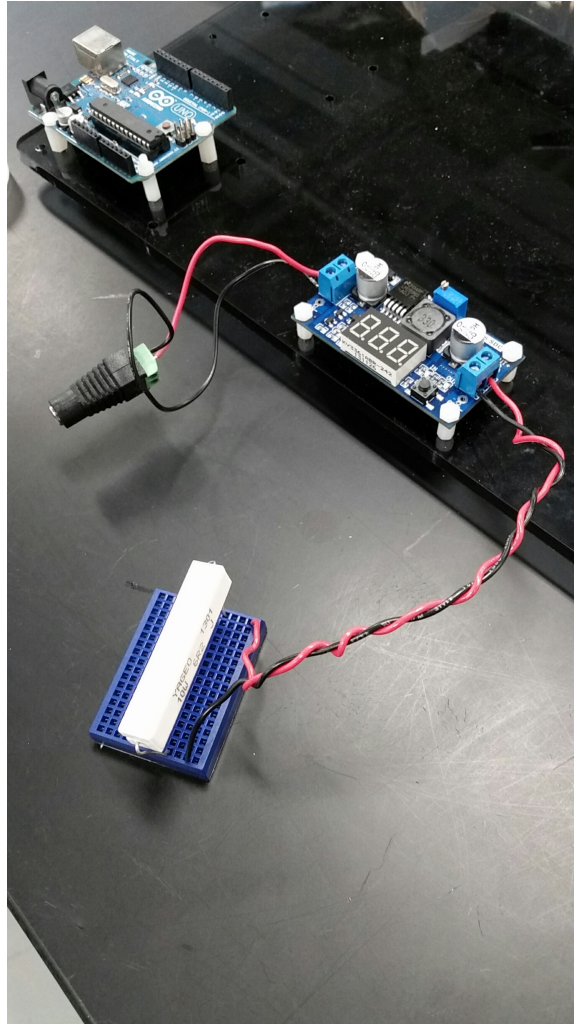

Figure 9: Image showing power resistor connections.
4. Unplug the power supply and connect the power resistor to the output of the voltage regulator. Use a small breadboard, as shown in Figure 9 to do this. Be careful not to short anything